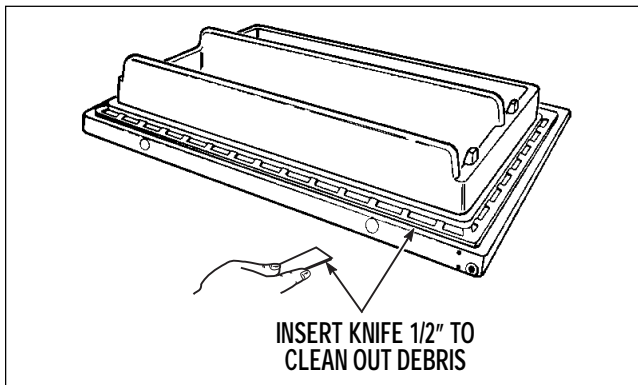

Figure 156
7. With the gasket removed, use a putty knife to clean any debris from between the lip of the inner liner and outer panel flange. Do not insert the putty knife more than 1/2". See Figure 156.